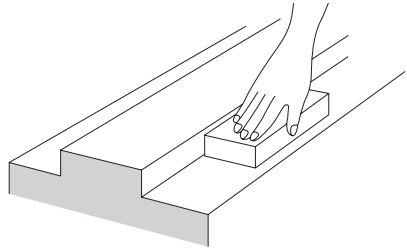

Fig.17
- (1) Remove burr or knots from the LM rail mounting surface of the base using an oil-stone. (Fig.17)